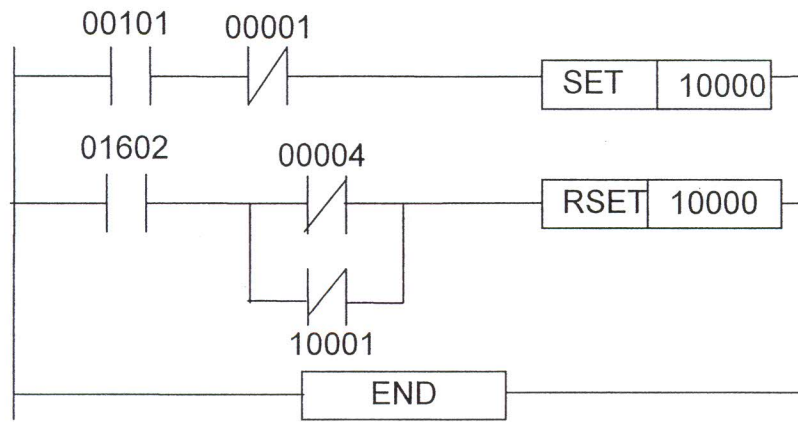

Figure 3: Ladder diagram with SET/RESET
- (d) Redraw the ladder diagram in Figure 3 by replaces the SET/RSET to KEEP. (3 marks)
- (a) List all the Input(s) and Output(s) for the application in **Figure 3**. (3 marks)